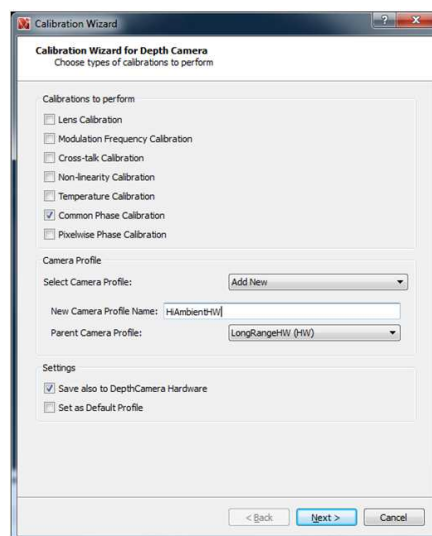

Figure 39. High Ambient Profile Settings
With the current operating profile set at **High Ambient (Settings → Camera Profiles → High Ambient)**, bring up the Calibration Wizard (**Settings → Edit Profiles**), configure the checkboxes as in Figure 39. The profile to save to is “HiAmbientHW”. This profile also inherits from the **LongRangeHW (HW)**. Click **Next** and proceed with Common Phase Calibration as before. When this step is completed, **HiAmbientHW** and **HiAmbientHW (HW)** profiles are created.